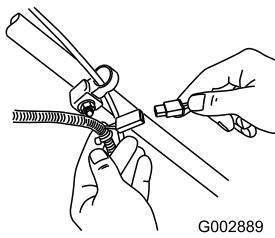

Figure 36
1. Connect the charger to the mower wire harness located below the ignition key (Figure 36).